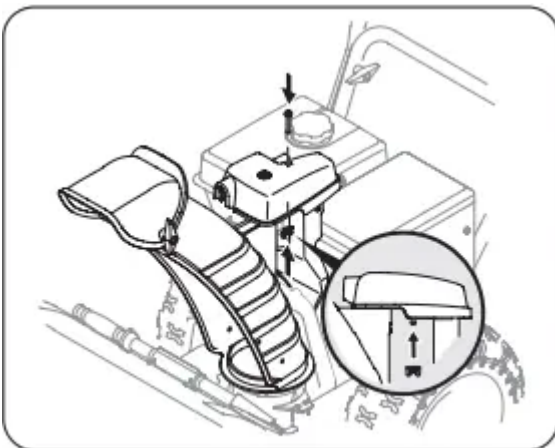

Figure 15
- Finish securing chute control head to chute support bracket with wing nut (a) and hex screw (b) removed in Step 1. See Figure 15.